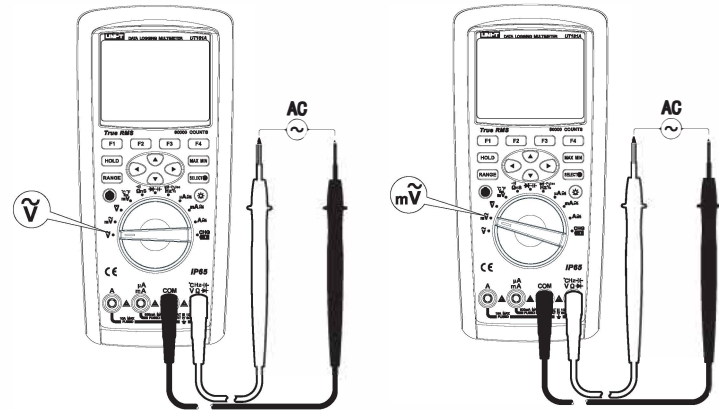

Figure 5
- 2) Set the rotary switch to  $\checkmark$  or  $m\checkmark$  as shown in Figure 5. Connect the test leads to the power or load under test in parallel.